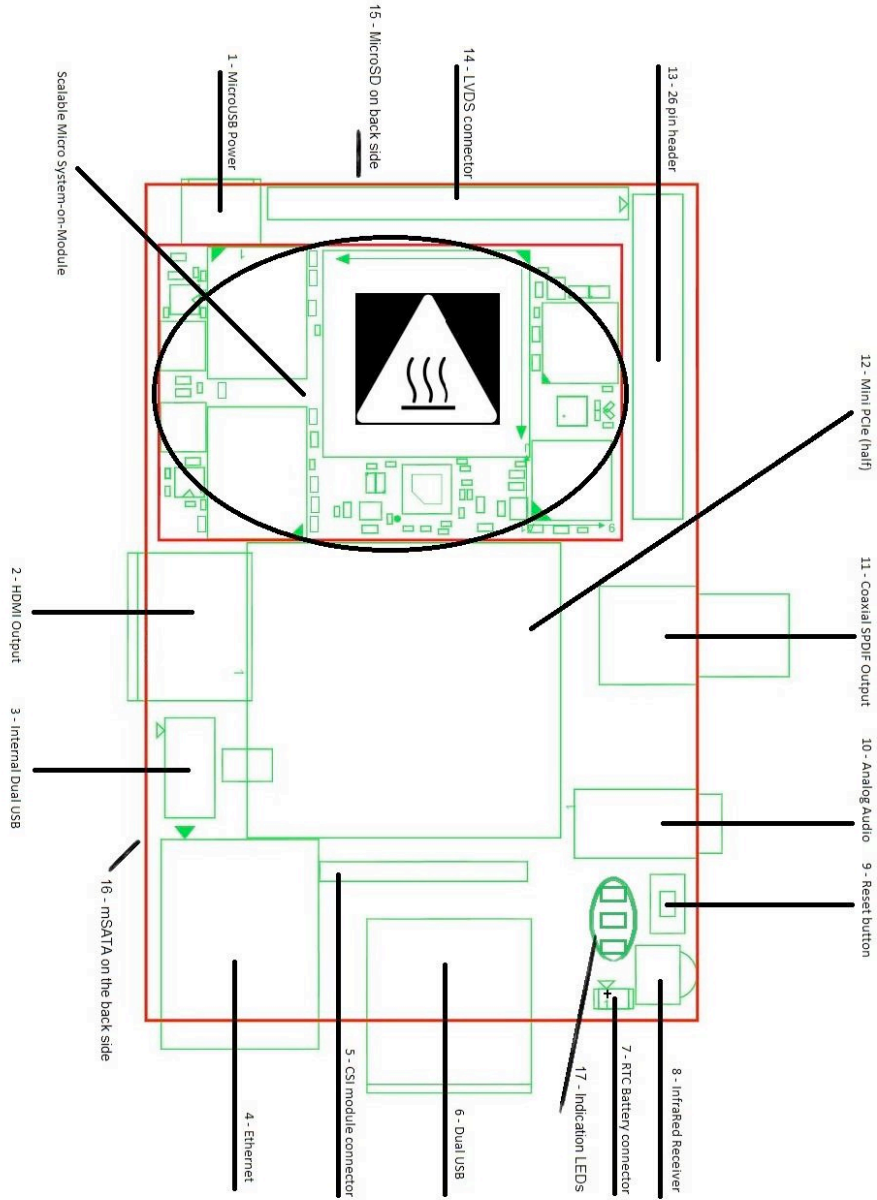

Figure 2 HummingBoard key features
- When installing RTC Backup battery, check for: Compatibility with NXP's PCF8523 specifications. Positive pin of battery is connected to pin 1 of the RTC Backup Battery connector (see figure 2). Battery's actual worst case temperature and withdraw current meet battery specification.
- Some surfaces of the device might reach high temperature when the device is under heavy work load. See figure 2, page 3